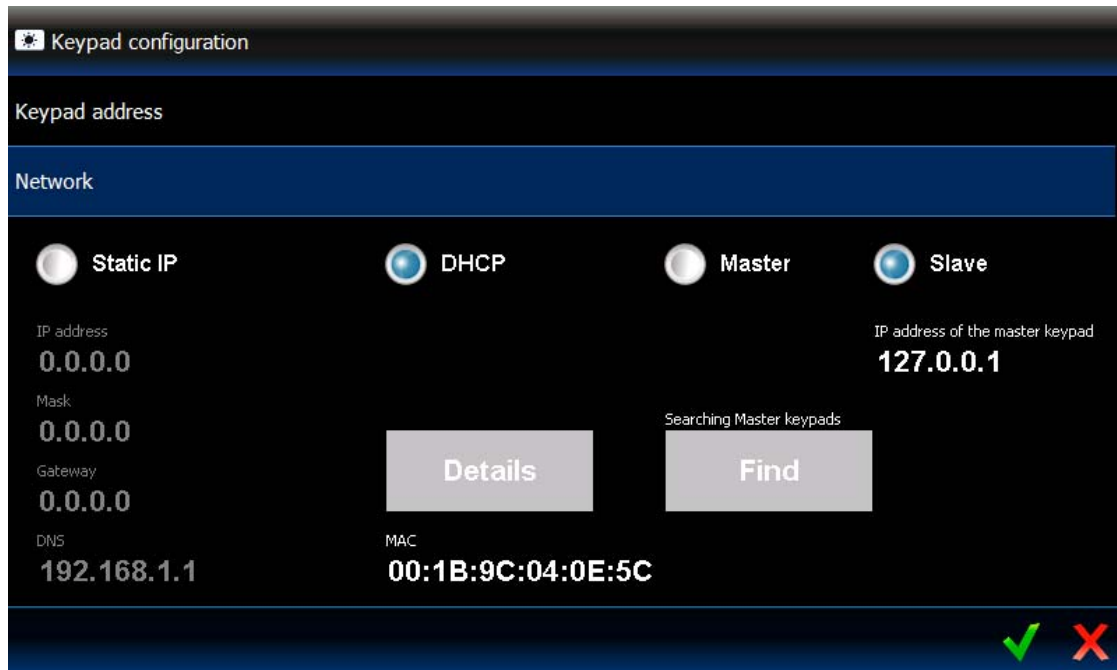

Fig. 6. Keypad network settings after selecting the “Slave” option.
5. Select the “Slave” option (see Fig. 6).